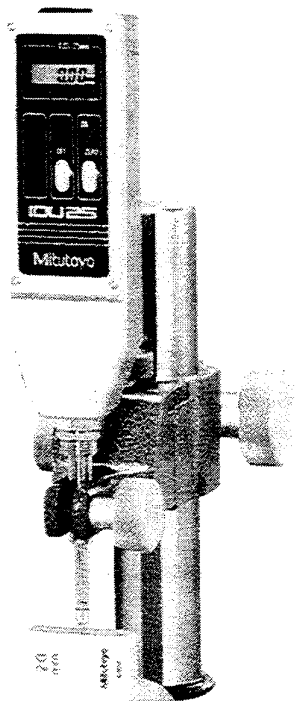

Fig. 18 Digimatic Indicator IDU
5.4.4 Digimatic Indicator IDU (Fig. 18)